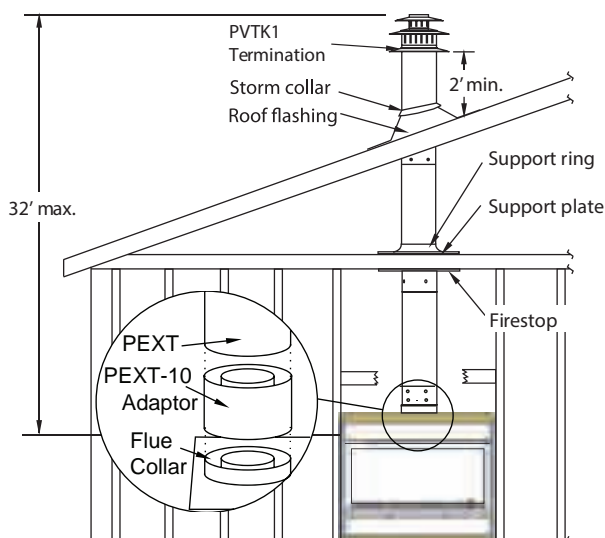

Figure 10. Top vent, Roof mounted termination with no offset in vent run.
- The Vertical termination must be a minimum 2' higher than where the termination exits the roofing materials, (asphalt shingles, cedar shakes, etc). This distance should be measured from the high side of the roof slope where the flue flashing intersects the roofing materials. (see Figures 10 - 10c).